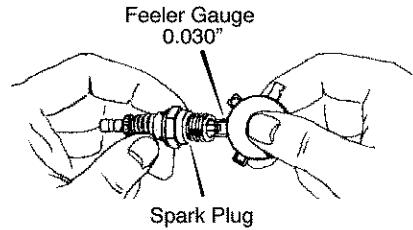

Figure 15
2. Check the **spark plug** gap with a **feeler gauge** and reset gap to 0.30" if necessary. See Figure 15.